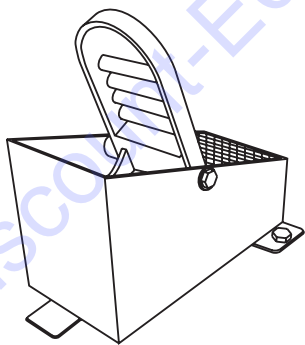

Figure 9. Blade Speed Control Foot Pedal
4. The right foot pedal (Figure 9) controls blade and engine speed. The position of the foot pedal determines the blade speed. Slow blade speed is obtained by slightly depressing the pedal. Maximum blade speed is obtained by fully depressing the pedal.